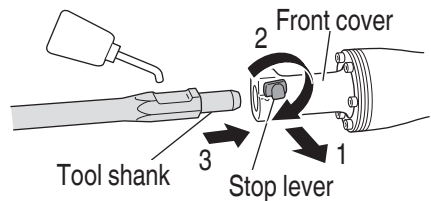

Fig. 1
- (1) Clean, then smear the tool shank with grease or machine oil (**Fig.1**).
- (2) Rotate the stop lever 180° in a clockwise direction while pulling it toward you. Next, insert the tool shank into the hexagonal hole on the front cover (**Fig.1**).